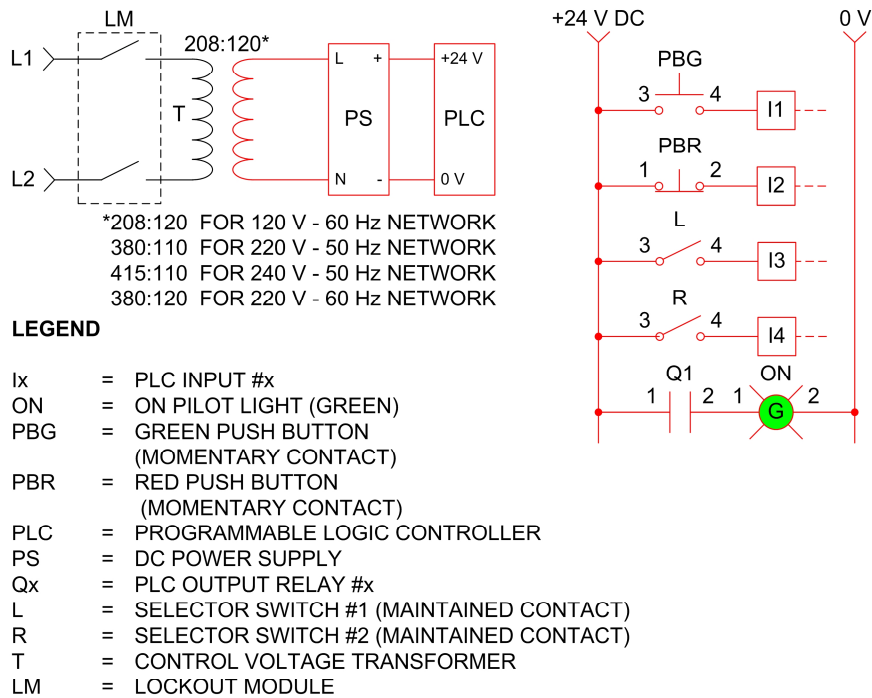

Figure 1-21. PLC input and output connections.
- ☐ 3. Connect the PLC inputs and outputs according to Figure 1-21.